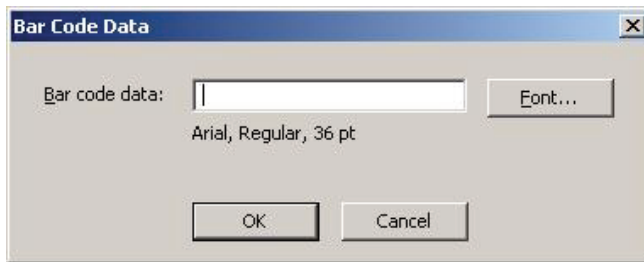

Figure 7-4. Bar Code Data Dialog Box
3. Select **Object>Open** or double-click the object. The *Bar Code Data* dialog box (Figure 7-4) displays.